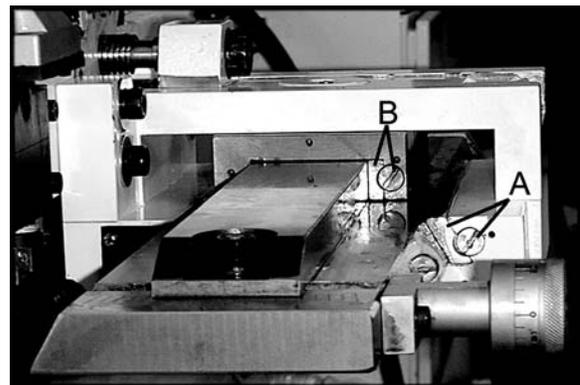

Figure 7
13. Install the long gib and screw (A, Figure 7). Install the short gib and screw (B, Figure 7). There should be no play and no binding when turning the cross feed hand wheel.